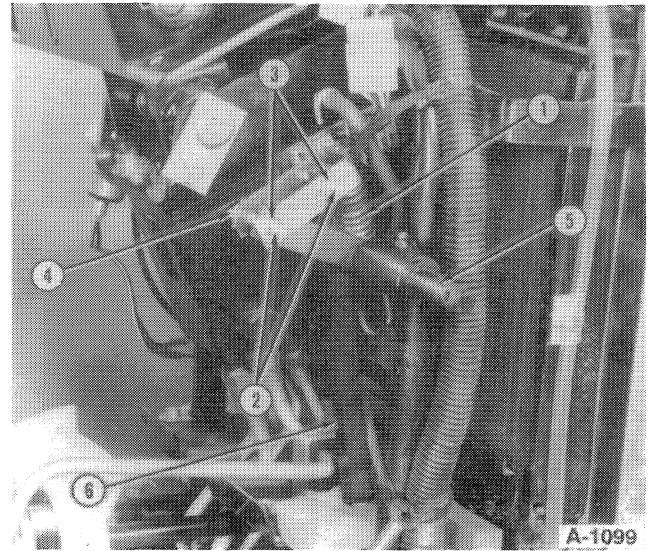

FIGURE 6-5
12. Remove the speed control over-center link pins, 3, Figure 6-5.